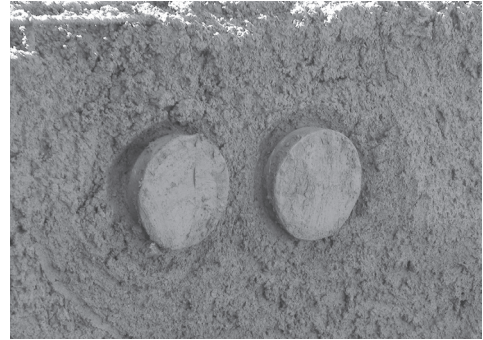
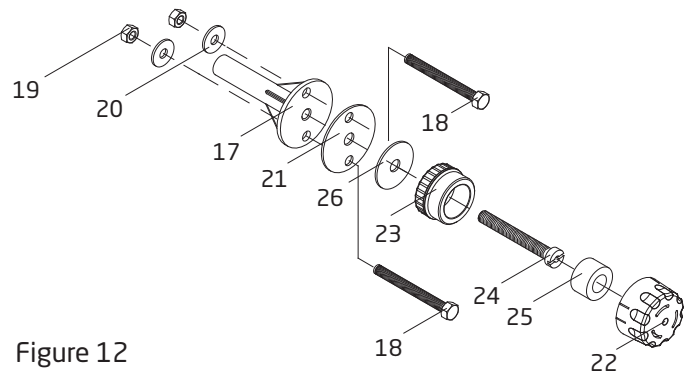

Figure 11
Figure 12
- D. Front edge of each jet housing should finish even with inside finished pool wall. Scrape out a V-shaped groove around the jet housing, approximately 1.5" deep to allow marcite to seal against the jet housing. See *Figure 11*.
- A. Thread one (1) air regulator hose nipple (*part #14*) into the back of the air regulator holder (*part #17*). Connect the free end of the plastic air regulator hose to the nipple on the back of the air regulator holder. Secure with a hose clamp (*part #16*).
- D. Install the hose ring (*part #25*) and snap the top part of the air regulator (*part #22*) into place. See *Figure 12* for air regulator assembly.